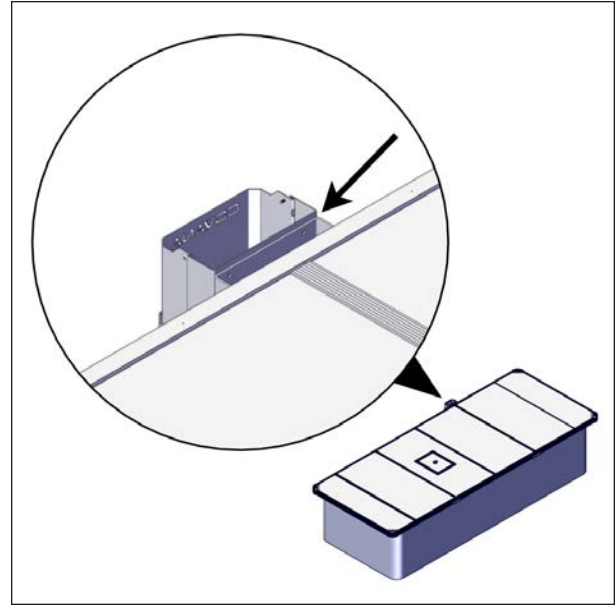

FIGURE 75: POST MOUNT BRACKET ALIGNMENT WITH THE SLEEVE
4. Gently install the sleeve on the ground so it is in contact at the top with the post mount bracket, see Figure 75.